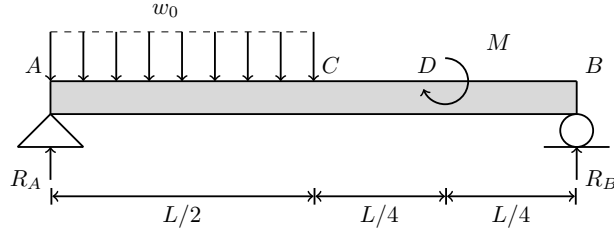

Figure 11
6. Consider a simply supported beam of length L subjected to applied load as shown in Fig. 11. Calculate the reaction forces, shear force, and bending moment at any point along the beam.